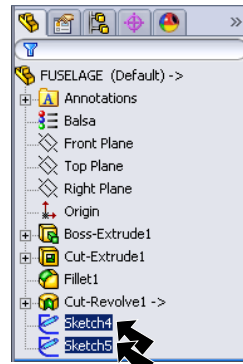

Fig. 37
Step 9. **Ctrl click both Sketches** in the Feature Manager to select both, **Fig. 37**.